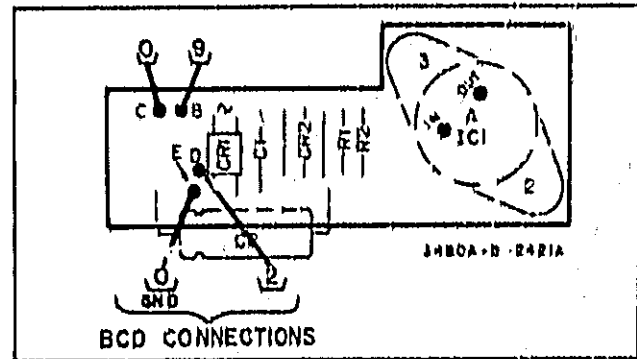

Figure 2-7. A9 Installation for BCD Option 004.
h. Locate unattached black wire and white wire in bundle along side of printed circuit compartment. Withdraw ends of these wires from bundle and connect to pins c and b on top side of A9 as shown in Figure 2-7.
j. Connect power cord and turn 3480C/D on. Check for +5 V \pm 5% at point indicated in Figure 2-7. Ground for this supply is chassis ground. If voltage is correct, turn power off and disconnect power cord. If not, troubleshoot A9 assembly and input from power transformer.
m. Connect black (ground) and red (+5 V) wires from cable to A9 pins D and E as indicated in Figure 2-7.